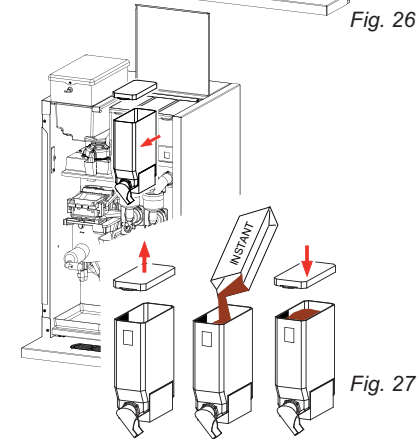

Fig. 27
1. Take the canister(s) from the device by pulling it/ them towards you (fig. 27).